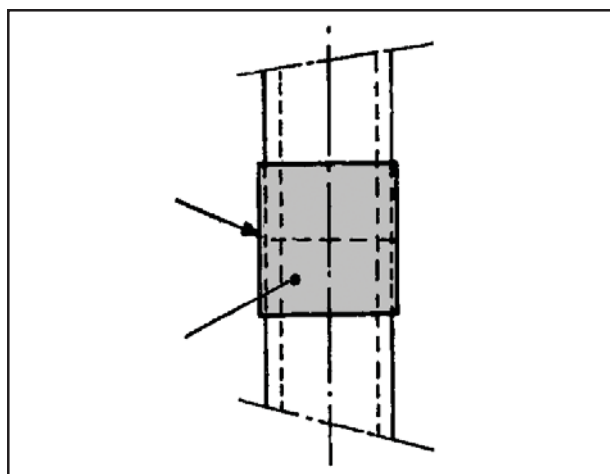

Figure 4-3 Connecting Sleeve
- For tubes made of several parts, do not forget to install the thermoformable connecting sleeve perpendicular to each junction (see Figure 4-3).